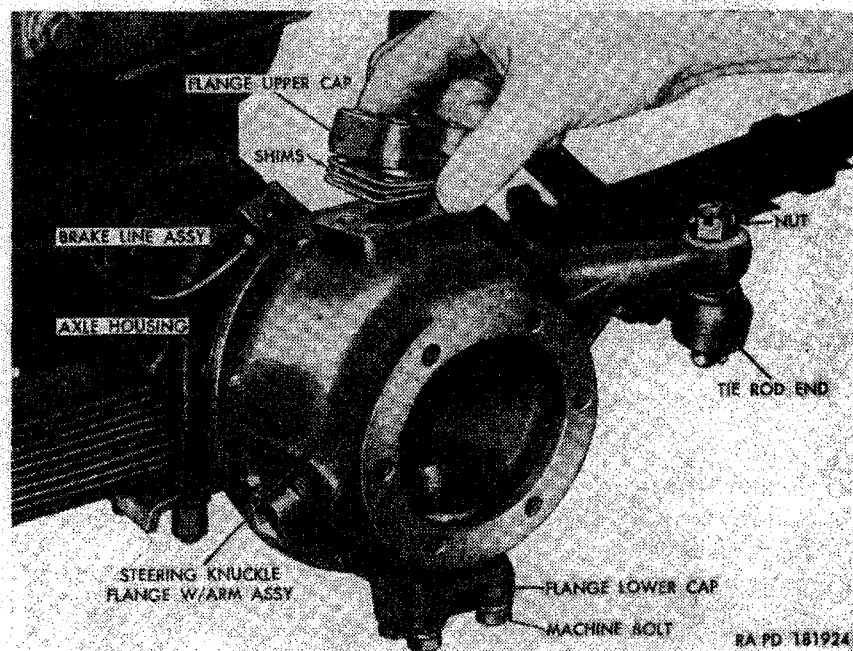

Figure 141. Removing flange upper cap and shims from right steering knuckle flange.
- (2) Withdraw the cotter pin and unscrew the nut securing the steering tie rod end to the steering knuckle arm (fig. 141).
- (3) Remove the front brake flexible line assembly (par. 236b(1)(a)).
- (6) Loosen the four bolts securing the flange lower cap (fig. 141) to the flange and remove the bolts and lockwashers. Pry the cap from the flange.
- (7) Remove the steering knuckle flange oil seal with retainer assembly (par. 212a).
- (8) Pull the steering knuckle flange off the axle housing and steering tie rod end.
- (9) Lift one bearing cone out of the flange and the other out of the axle housing.